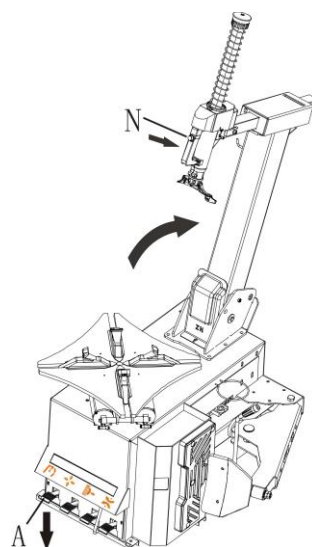
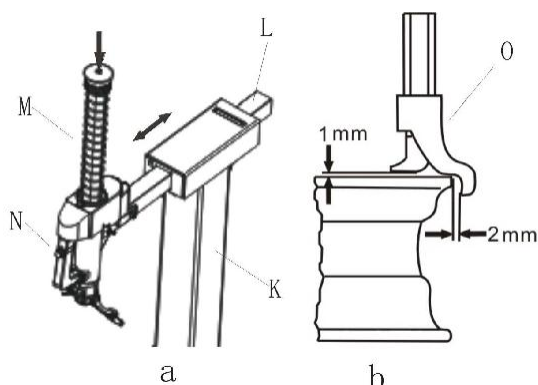

Fig. 14
Fig. 17
- Press the button N (Fig. 14) to lock the slide arm and lever.
- Make the column return to working position use the pedal A(Fig. 14); Press the button N(Fig. 17-a), make the L and M can move freely. Adjust the L and M to the reasonable position (as in Fig. 17-b) and lock them with button N. Make sure the mounting head around 2-3mm apart from the rim.